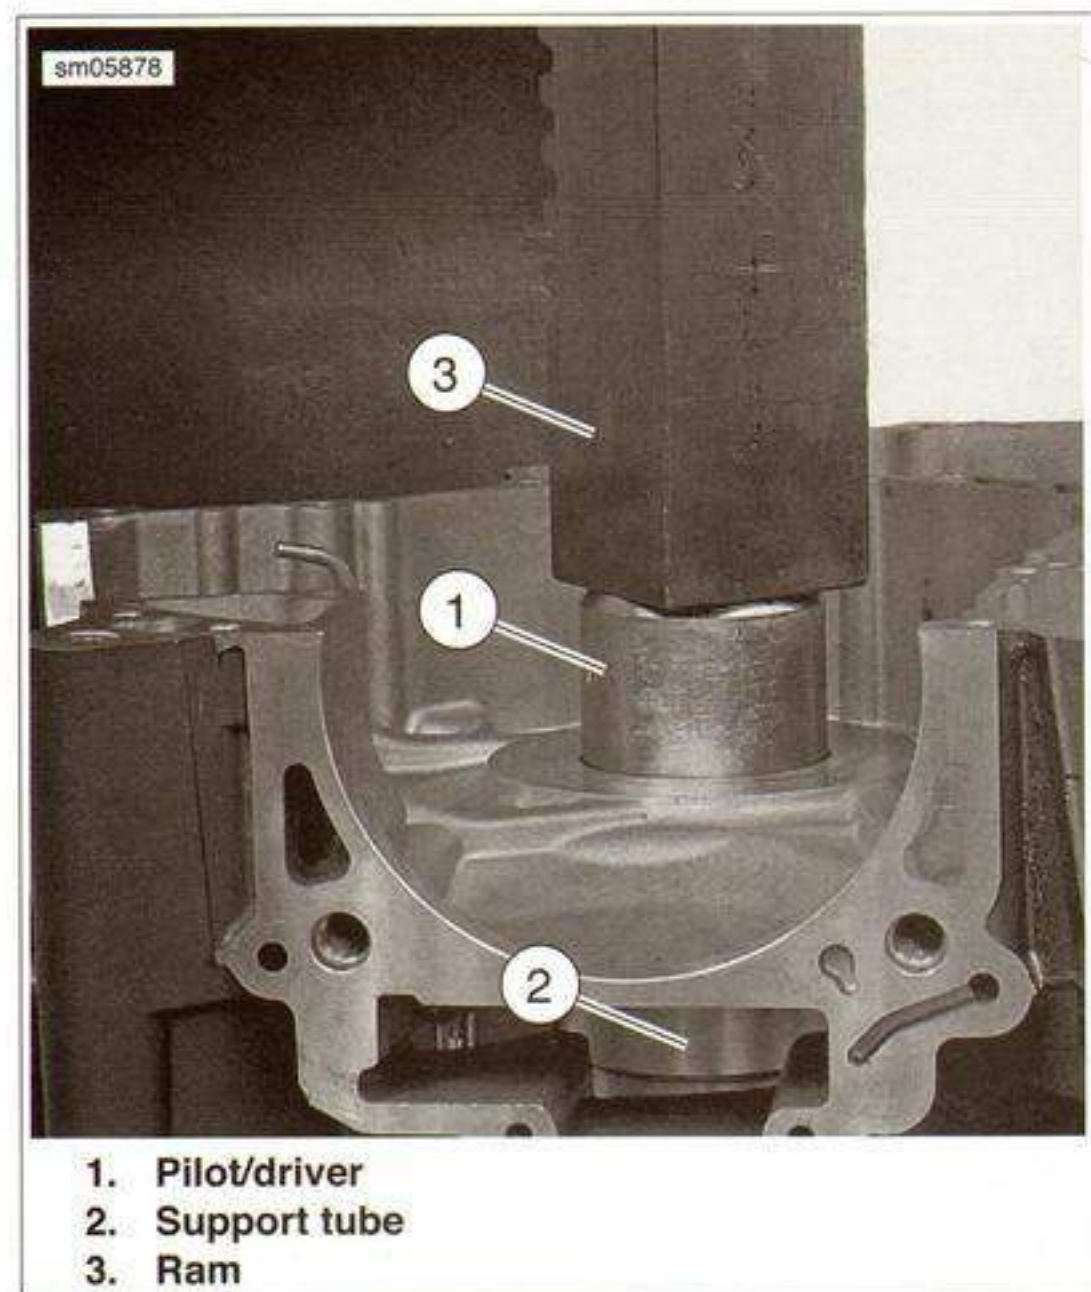

Figure 3-183. Main Bearing Remover/Installer Driver B-49055-3
- See Figure 3-183.
- Place support tube (2) on hydraulic press table with the "A" end up. Note that the sides of the support tube are stamped to be certain of proper orientation.
- Slide pilot/driver (1) through bearing into support tube.
- Center pilot/driver under ram (3) of press. Apply pressure to pilot/driver until bearing is free. Discard bearing.